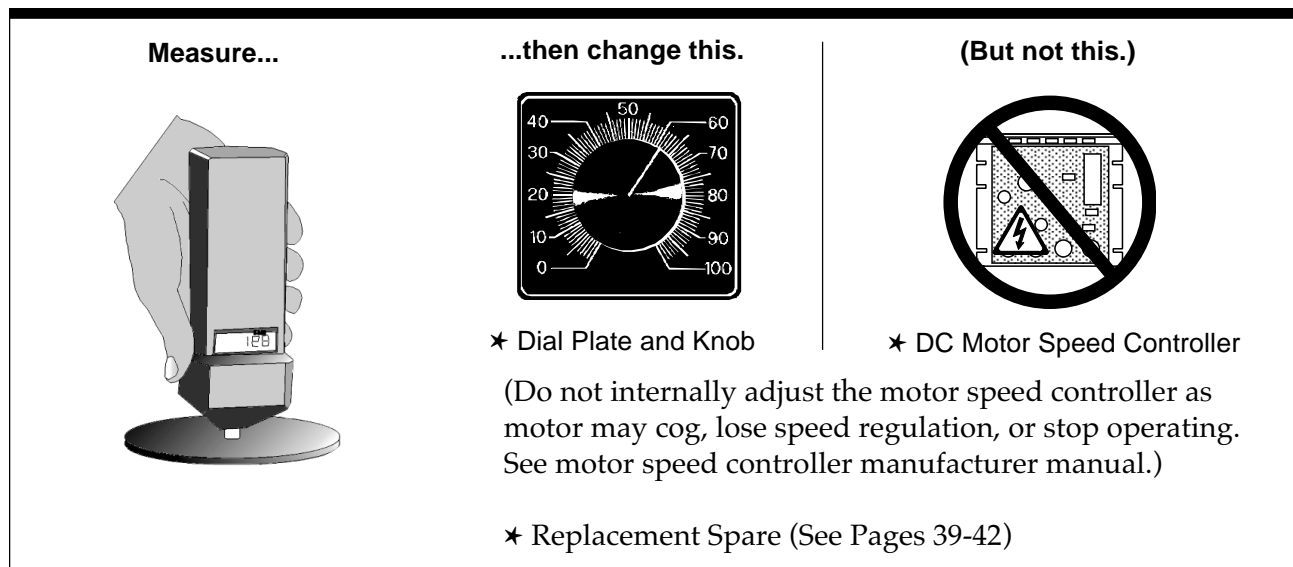

Figure 3-1. Measuring and Changing Bowl Speed
15	Figure 3-1. Measuring & Changing Bowl Speed
▶ You will need a hand-held tachometer (analog or digital) with a surface speed wheel indicator (see Figure 3-1).